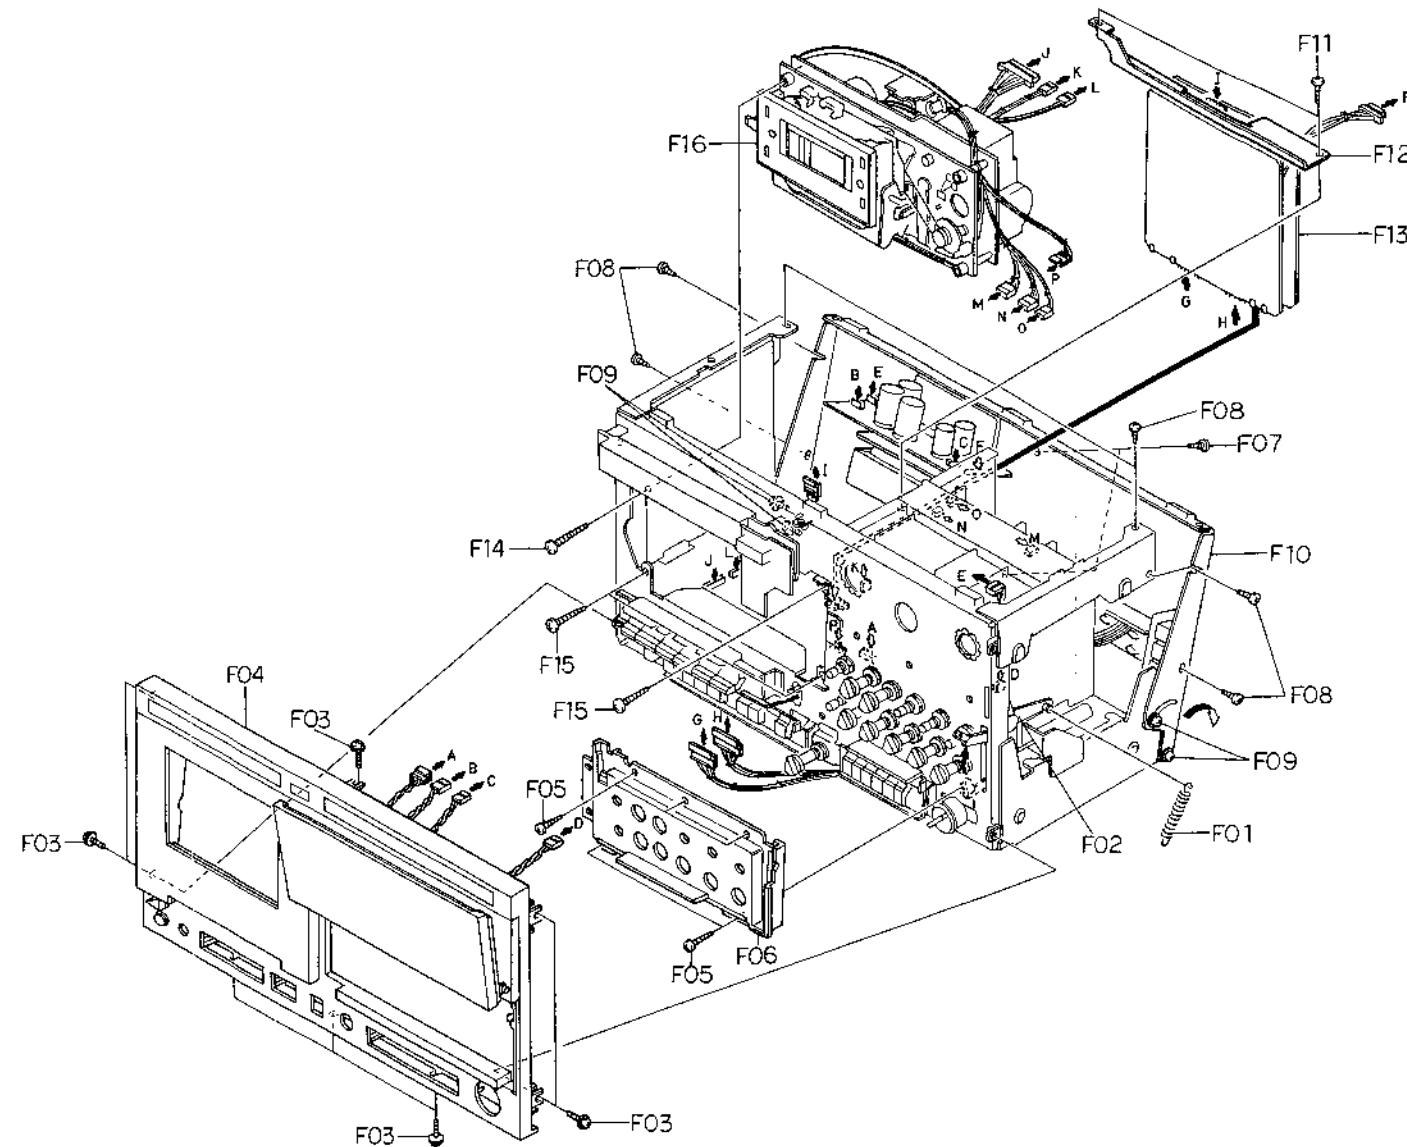

Fig. 2.2
Refer to Fig. 2.2.
- (1) Refer to Fig. 2.2. Remove Front Panel Ass'y referring to item 2.5.
- (2) Remove F01, then disassemble F02 (Counter P.C.B. Ass'y).
- (3) Remove F03, then disassemble F04 (Lighting House Ass'y including 5 connectors).
- (4) Remove F05, then disassemble F06 (Lamp A P.C.B. Ass'y).
- (5) Remove F07, then disassemble F08 (Lamp B P.C.B. Ass'y).
- (6) Remove F09 and F10, then disassemble F11 (Lamp C P.C.B. Ass'y).
- (2) Remove F12 and F13, then disassemble F14 (Control Button Ass'y including 3 connectors).
- (3) Remove F15, then disassemble F16 (Control Lamp Ass'y).
- (4) Remove F17, then disassemble F18 (Control Switch Ass'y).
- (5) Remove F19 and F20, then disassemble F21 (Switch Lamp A P.C.B. Ass'y).
- (2) Remove F22 and F23, then disassemble F24 (Push Button A Ass'y including 2 connectors).
- (3) Remove F25 and F26 (Button Shaft A), then disassemble F27 (Push Button A), F28 (Button Sleeve B) and F29 (Button Sleeve A).
- (4) Remove F30, then disassemble F31 (Switch C P.C.B. Ass'y) and F32 (Switch A P.C.B. Ass'y).
- (2) Remove F33 and F34, then disassemble F35 (Push Button B Ass'y including 2 connectors).
- (3) Remove F38 and F39 (Button Shaft B), then disassemble F40 (Button Sleeve C) and F41 (Push Button B).
- (4) Remove F42, then disassemble F43 (Switch B P.C.B. Ass'y).
- (2) Remove F44, then disassemble F45 (Power Switch Ass'y).
- (3) Remove F46 and F47, then disassemble F48 (Headphone Jack Ass'y).
- (4) Remove F49, then disassemble F50 (Volume Knob R Ass'y), F51 (Volume Knob L Ass'y), F52, F53 and F54 (Line Input Volume).
- (2) Remove Record Eq. Amp. P.C.B. Ass'y, Oscillator P.C.B. Ass'y, Record Dolby NR P.C.B. Ass'y and Playback Amp. & Dolby NR P.C.B. Ass'y referring to item 2.15.
- (3) Remove F14 and F15, then loosen F16.
- (4) Turn over Rear Panel Ass'y as an arrow head.
- (5) Disconnect F19 (MIC & Meter Amp. P.C.B. Ass'y) from F25 (MIC Volume & Switch P.C.B. Ass'y).
- (6) Remove F20, then disassemble F21 (Control Panel Ass'y).
- (7) Remove F22 (Switch Knob), F23 and F24, then disassemble F25 (MIC Volume & Switch P.C.B. Ass'y).
- (8) Remove F26, F27 and F28, then disassemble F29 (Line Amp. P.C.B. Ass'y).
- (9) Remove F30 (Switch Knob), then disassemble F31 (Connector P.C.B. Ass'y including 6 connectors).
- (10) Remove F32, F33 and F34.
- (11) Remove F35, F36 (P.C.B. Stopper), F37 and F38, then disassemble F39 (Mother P.C.B. Ass'y).